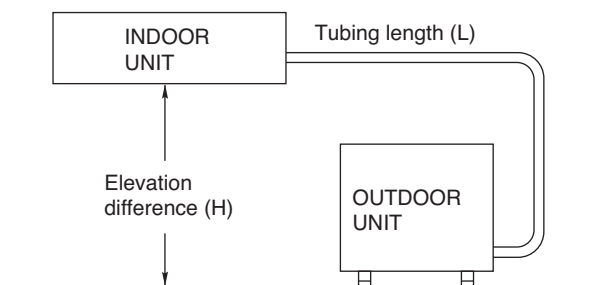

Fig. 37
Install unit within the maximum elevation different (H) above or below the outdoor unit and within a total tubing length (L) from the outdoor unit as detailed in Table 4 and Fig. 37.